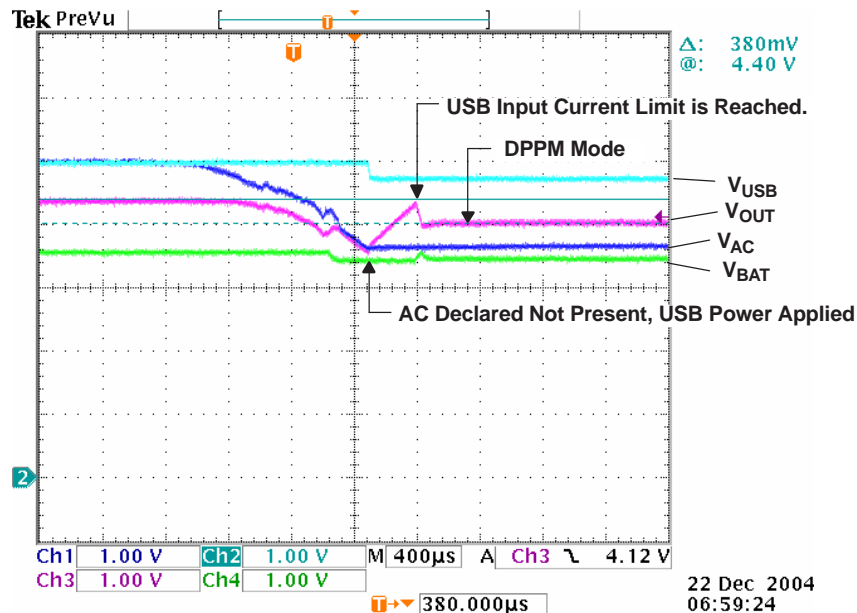

Figure 7. Remove AC – PWR XFER to USB
Figure 7 illustrates when AC is removed, power transfers to USB; PSEL = H (AC primary source); channel 1 (CH1) VAC = 5.4 V; channel 2 (CH2) V(USB) = 5 V; channel 3 (CH3) VOUT; output current, IOUT = 0.25 A; channel 4 (CH4) VBAT = 3.5 V; and I(PGM-CHG) = 1 A. The power transfer from AC to USB only takes place after the primary source (AC) is considered bad (too low, VAC ≤ VBAT + 125 mV) indicated by the ACPG FET turning off (open drain not shown). Thus, the output drops down to the battery voltage before the USB source is connected (6th div). The output starts to recover when the USB FET starts to limit the input current (7th div) and the output drops to the V(DPPM-REG) threshold.